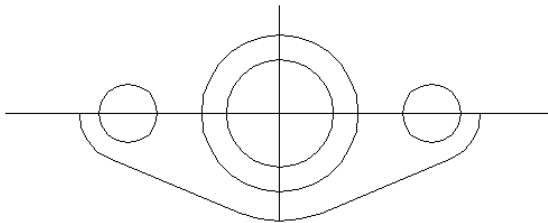

**Figure 7-6:** The partially completed sealing plate, created by using lines, circles, and arcs.
15. Save your drawing. Your drawing should look like Figure 7-6. You can complete this drawing in Chapter 10 by creating a mirror image.